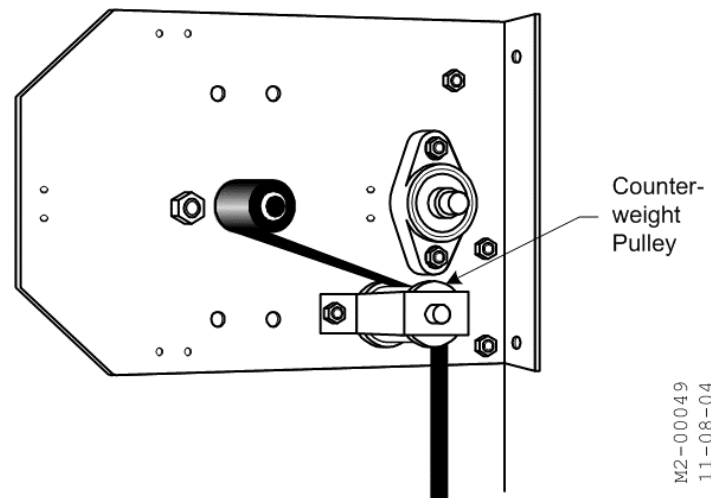

Figure 2-21: Counterweight Pulley
4. Pass the belt behind the Counter-weight Pulley without twisting it. See Figure 2-21.